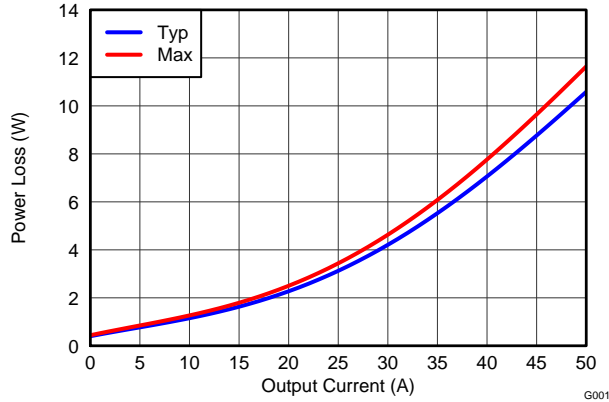

Figure 7. Power Loss vs Output Current
MOSFET centric parameters such as  $R_{DS(ON)}$  and  $Q_{gd}$  are primarily needed by engineers to estimate the loss generated by the devices. In an effort to simplify the design process for engineers, Texas Instruments has provided measured power loss performance curves. Figure 7 plots the power loss of the CSD96371Q5M as a function of load current. This curve is measured by configuring and running the CSD96371Q5M as it would be in the final application (see Figure 18). The measured power loss is the CSD96371Q5M device power loss which consists of both input conversion loss and gate drive loss. Equation 1 is used to generate the power loss curve.
The power loss curve in Figure 7 is measured at the maximum recommended junction temperature of  $T_J = 125^\circ\text{C}$  under isothermal test conditions.
- Power Loss at 25A = 3.1W (Figure 7)